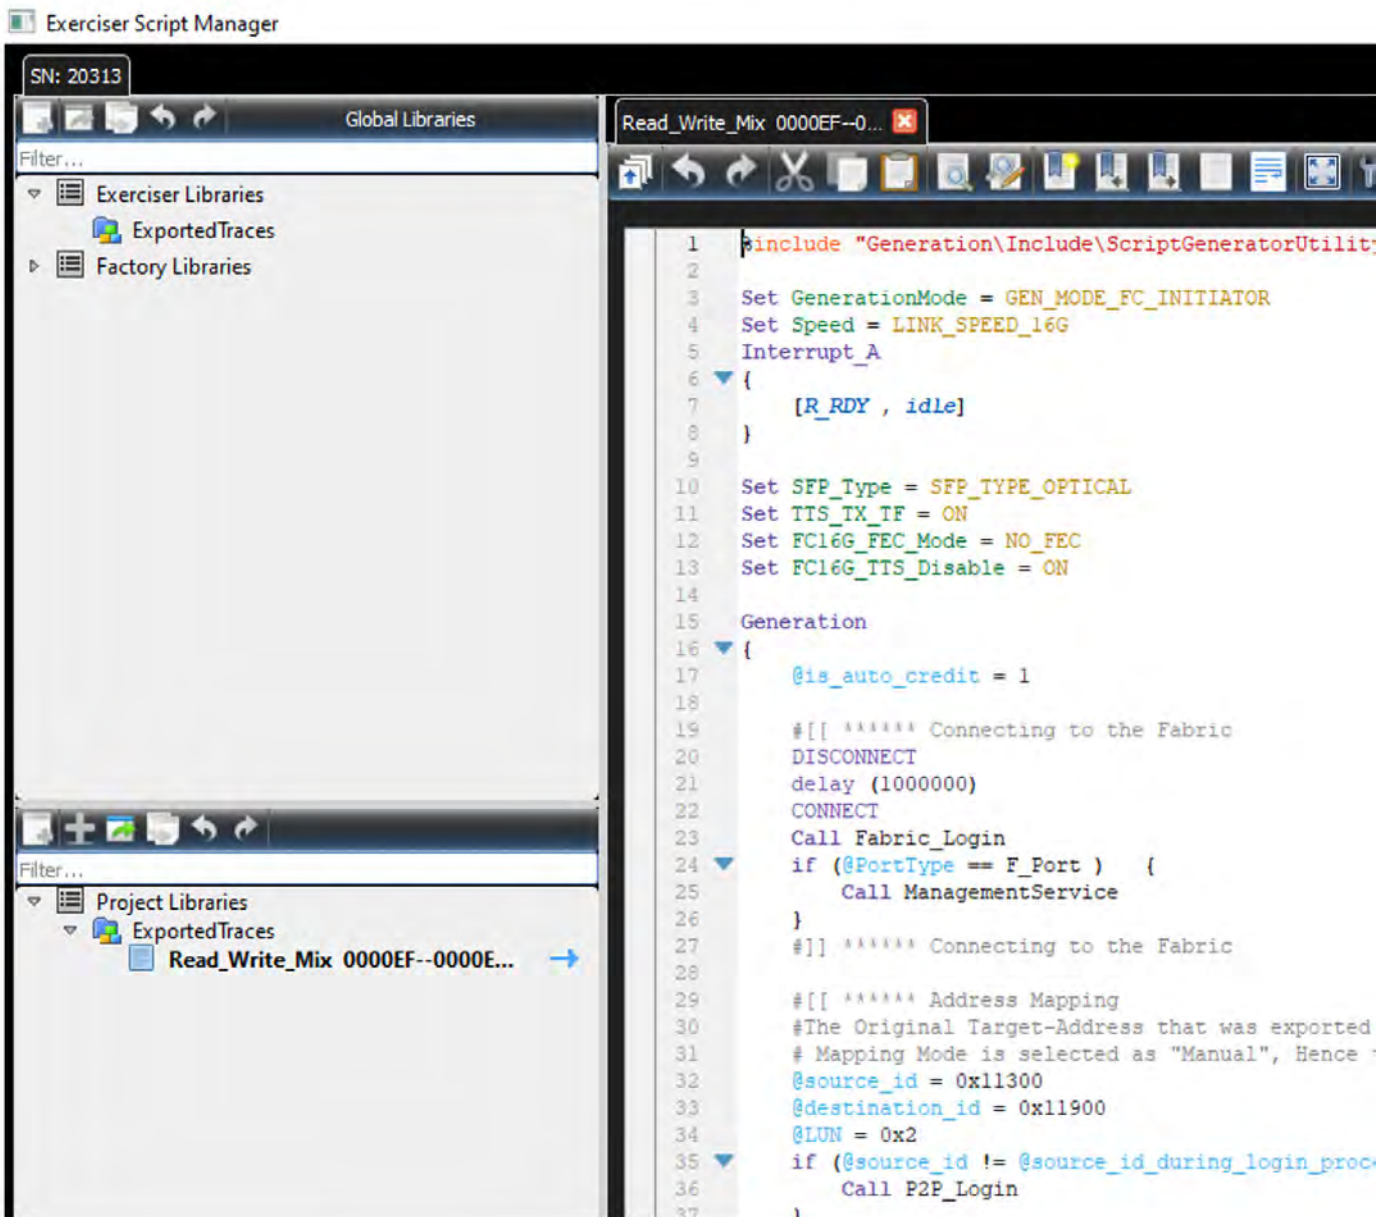

Figure 8.44: Exerciser Script Manager
4. The Exerciser Script Manager window displays containing the script information for the selected target. See Figure 8.44.